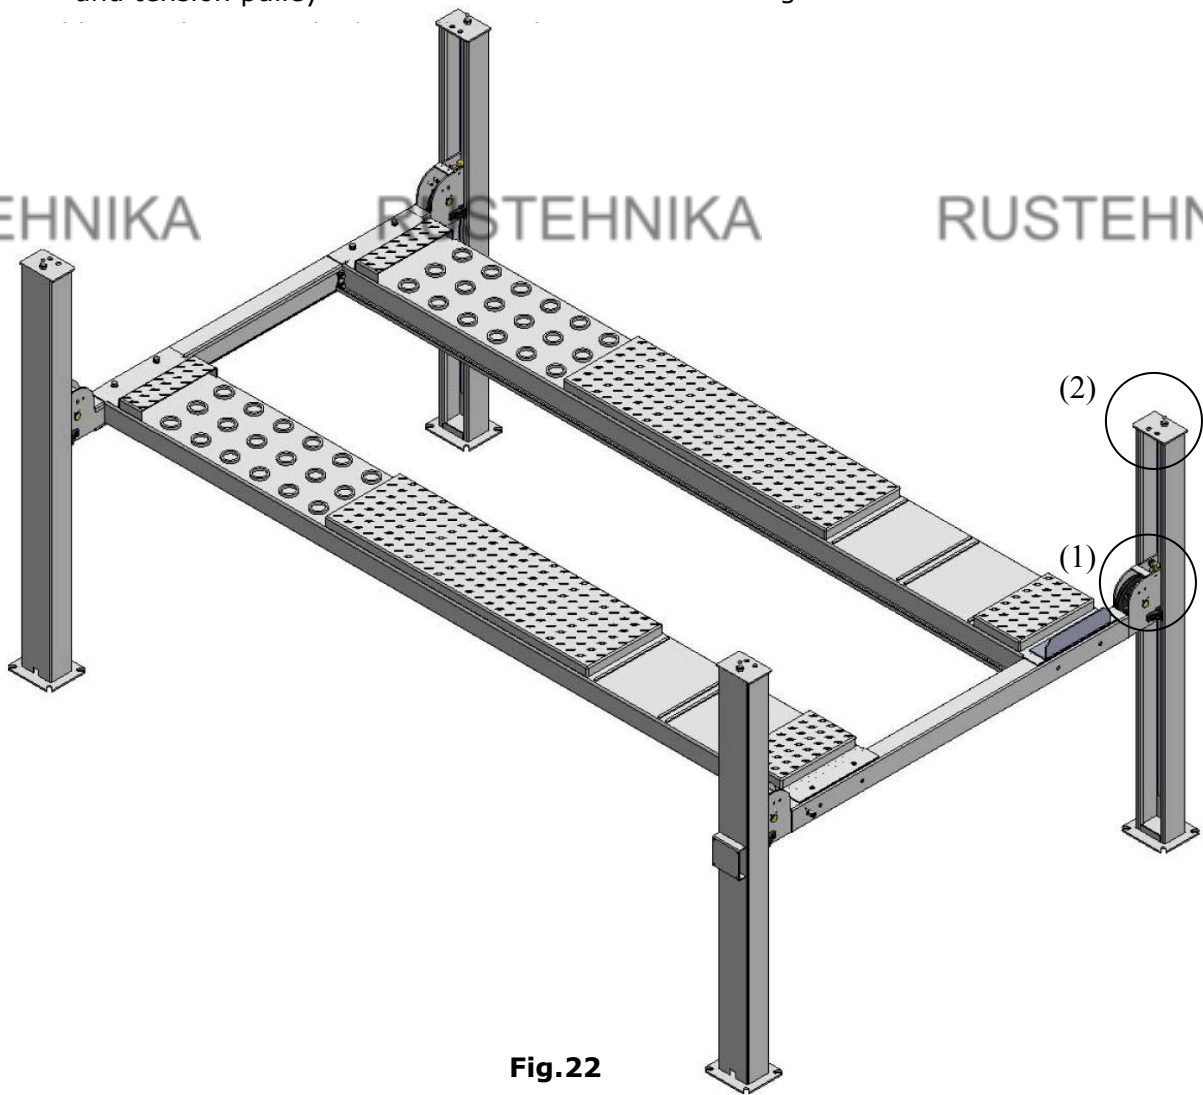

Fig.22
2. The cable goes through the cross beam to top plate of columns and tightened with cable nuts (See Fig. 22)